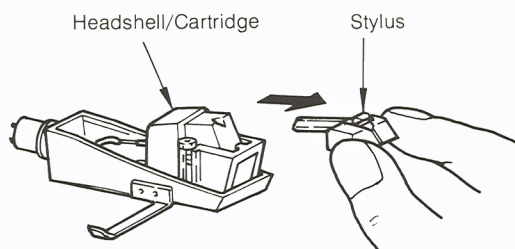

FIG. 30
2. Gently remove worn stylus and replace it with a new one, as shown in Fig. 30.